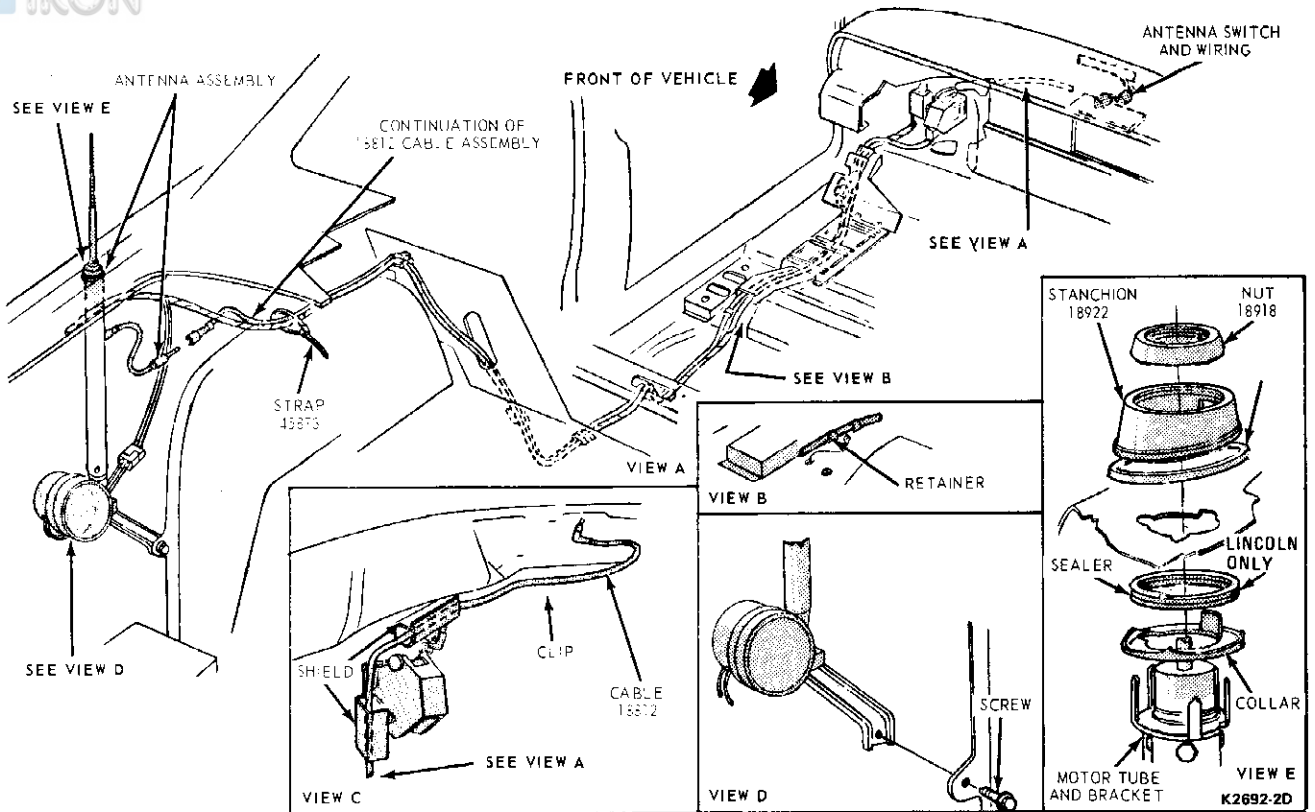

FIG. 2 Power Antenna Installation—Lincoln Continental and Mercury
1. Lower the antenna and remove the luggage compartment left trim panel (Figs. 2 and 3).